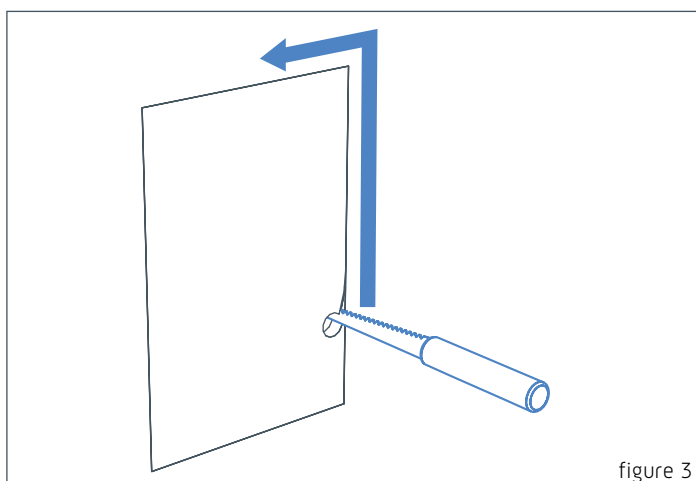

figure 3
- Use a fine gyprock saw to cut around the inside of the traced line. (figure 3)